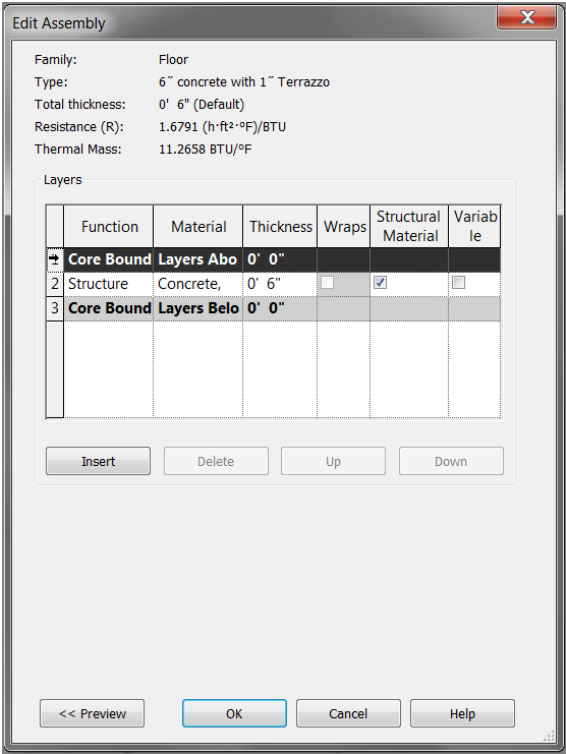

FIGURE 6.21: Inserting a new layer for the Terrazzo
1. In the Layers field are three rows. Each row has a corresponding number. Click the number 1. This is the top row that reads Core Boundary | Layers Above Wrap (see Figure 6.21).
2. Under the Layers field, click the Insert button, as shown in Figure 6.21.